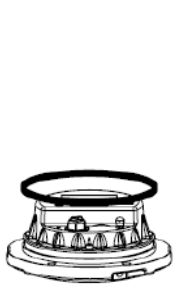

Figure 5-19
- Replace the lighting fixture gasket outside the inner cover: Take down the lighting fixture gasket outside the inner cover and carefully clean the seal groove. Load the new gasket to the correct working position on the inner cover. Please note that the gasket shall not be bent (Figure 5-19).